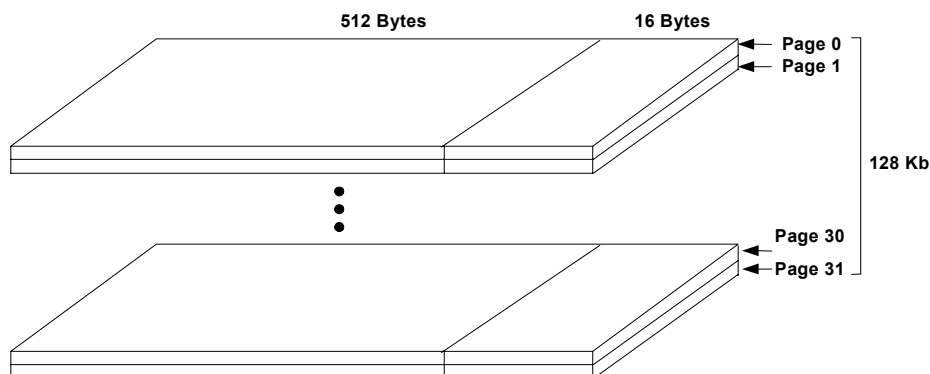

Figure 9: Block Structure
- **Block** – Each block contains 32 pages (total of 128Kb), as shown in Figure 9. A block is the minimal unit that can be erased, and is sometimes referred to as an erase block.